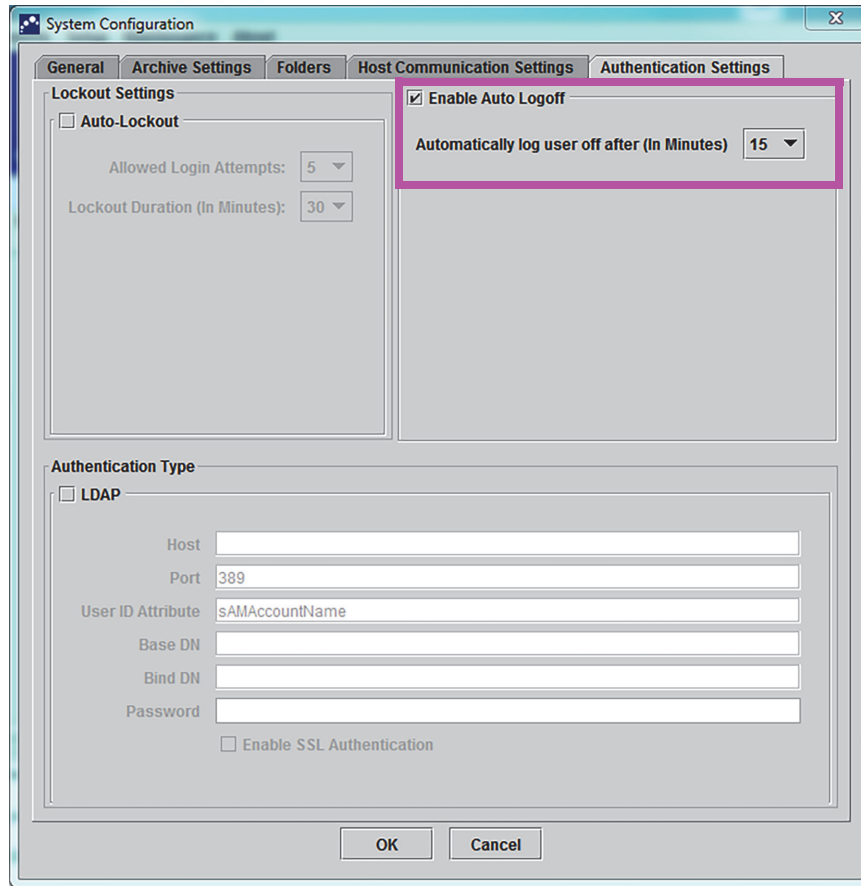

Figure 2-45. Authentication Settings Configured for Auto Logoff
2. Click the **Authentication Settings** tab; the Authentication Settings information appears. See Figure 2-45.